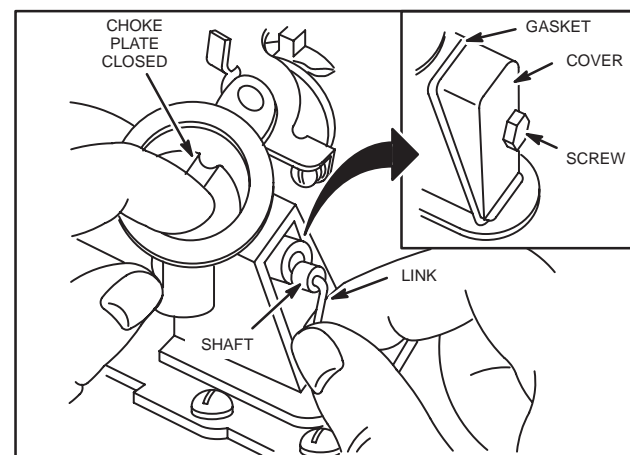

Fig. 244 – INSERTING CHOKE LINK
5. Close choke plate. Insert choke link into choke shaft as shown, Fig. 244.
3. Move choke plate to normal closed position. Choke plate should now remain fully closed, Fig. 244.